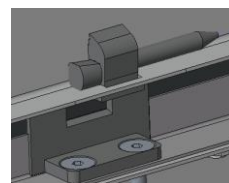

Fig. 5
- Attach the door by placing the pin into the hinge to secure the door, ensuring the head of the pin is positioned above the body of the hinge. Repeat this for all hinges. Refer to Fig. 5 for details.